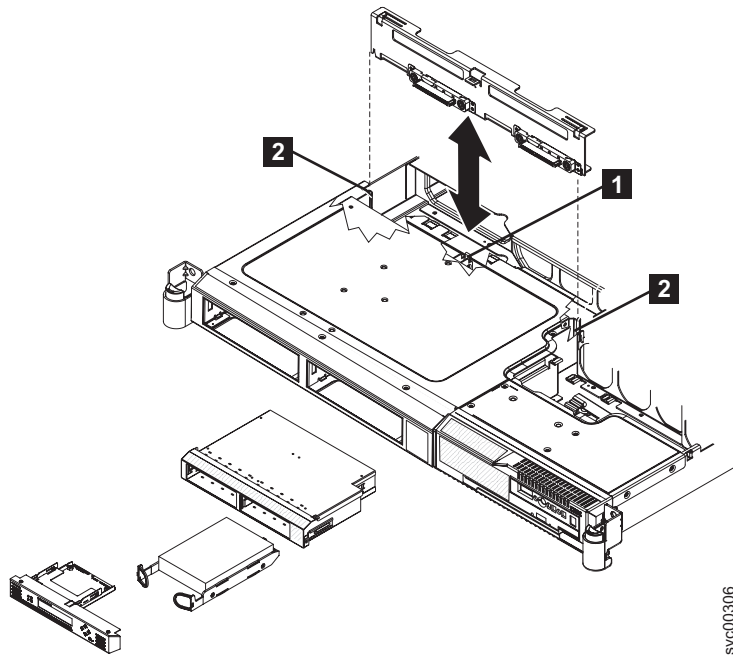

Figure 127. The SAN Volume Controller 2145-8G4 SATA disk drive and backplane
2. Slide the backplane into the mounting channels **2**, which are shown in Figure 127 on page 145, making sure not to trap or pinch any nearby wires or cables.